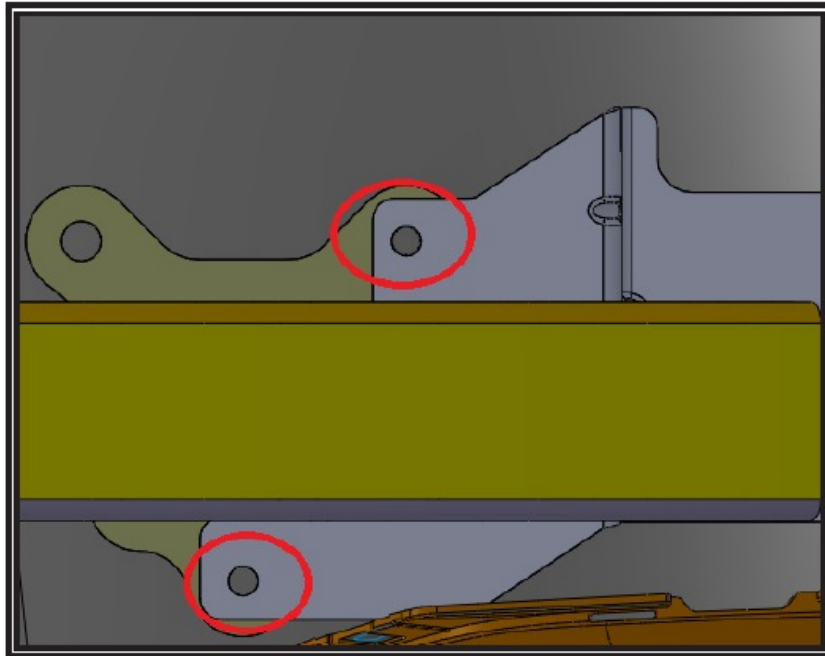

Figure 1
2. Locate and remove factory bolts from driver side bumper mount. See Figure 1.